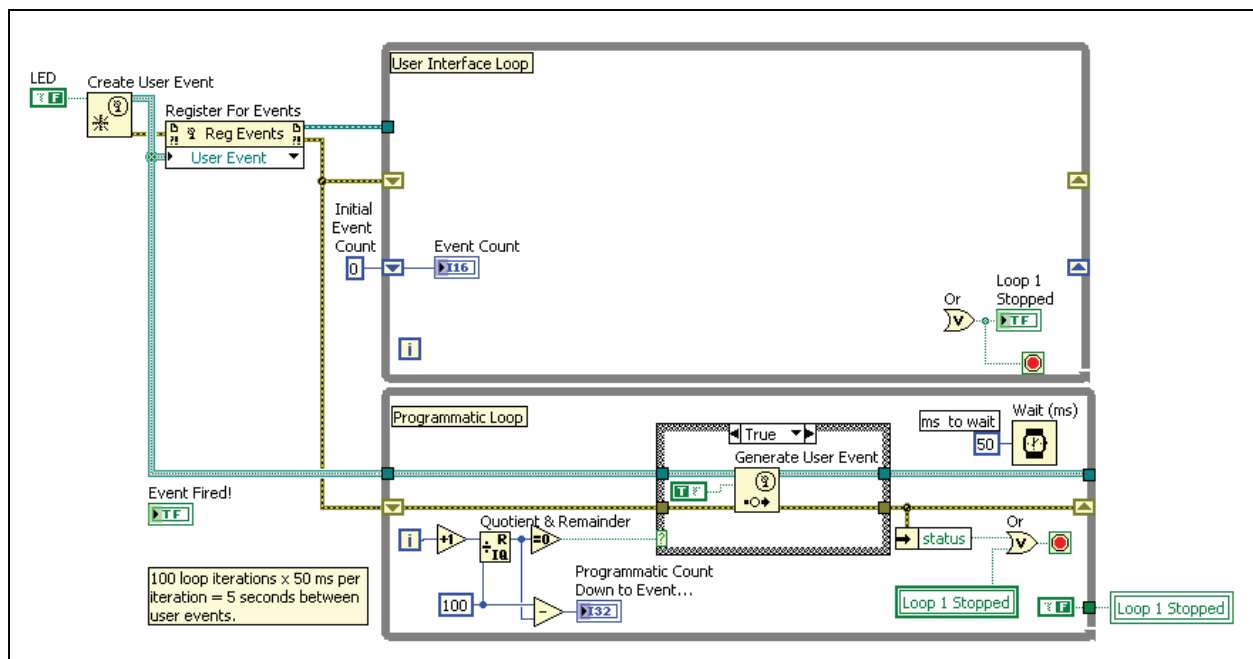

Figure 4-3. Create and Generate a User Event for LED
2. Modify the block diagram to create and generate a user event for the LED as shown in Figure 4-3. You will add the True state as shown in Figure 4-3. Wire the user event through the False state.
- ☐ Add a Register For Events node from the **Events** palette to the block diagram. Wire the node as shown in Figure 4-3.
- Wire the Generate User Event function as shown in Figure 4-3. The True case executes only when the countdown reaches zero.